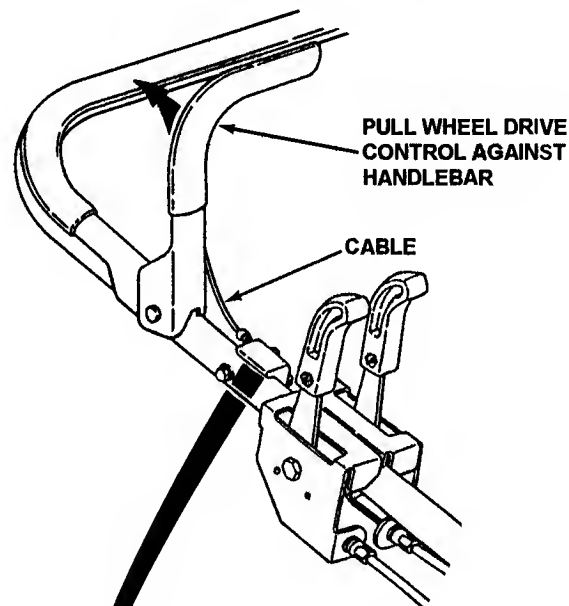

FIGURE 26
Reach down with right hand and turn drive belt tension adjusting wheel counterclockwise two (2) complete turns. See Figure 26.